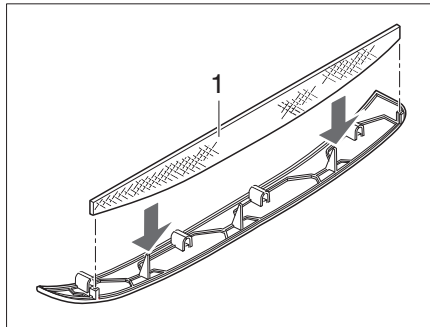
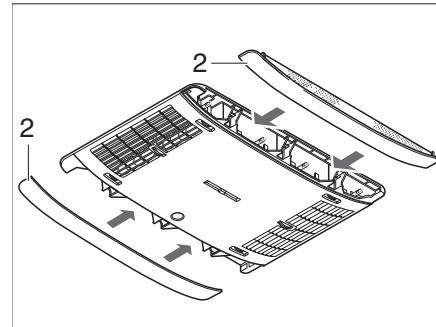

Fig. 366 Lint filter air conditioning unit
Fig. 367 Air conditioning unit panels
Two lint filters are located in the side panels (Fig. 367,2). The lint filters must be cleaned at regular intervals, at least every 6 months however, and replaced if necessary.
- Remove the panels (Fig. 367,2) from the air distribution unit and clean the lint filter (Fig. 366,1) or replace it if necessary.